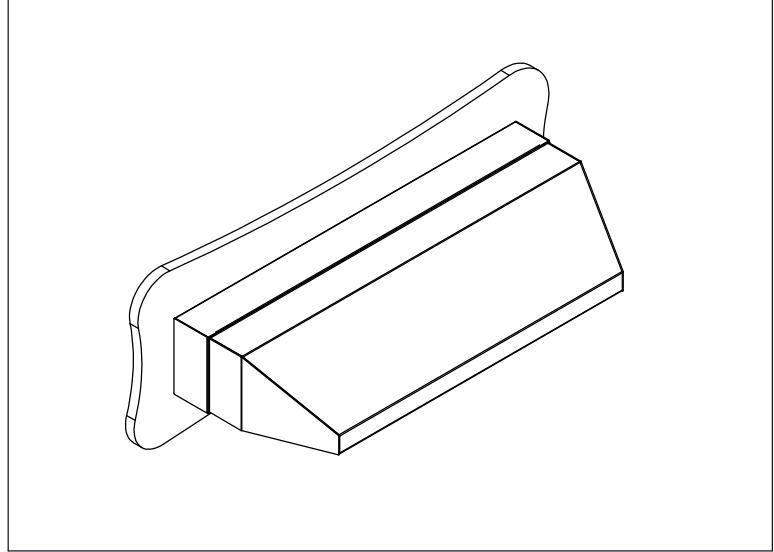

Figure 6
6. Caulk between Back Box and mounting surface (Fig. 6).